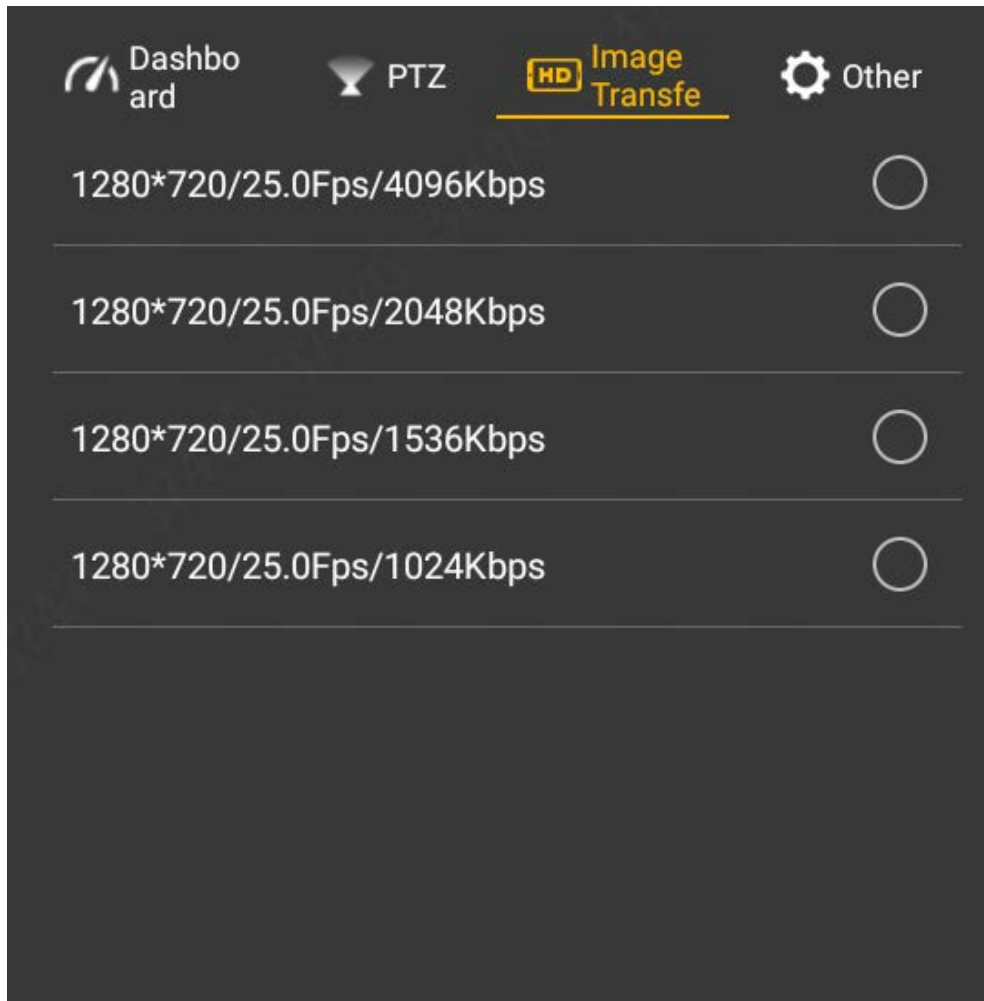

Figure 3-21
Step 1 Select “Image Transfer”, and the system enters “Image Transfer” interface, as shown in Figure 3-21.